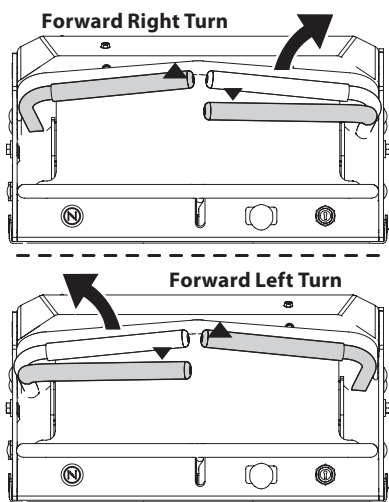

Fig. 12
1. To turn to the right, move the right drive control lever rearward of the left drive control lever (Fig. 12).
2. To turn to the left, move the left drive control lever rearward of the right drive control lever (Fig. 12).